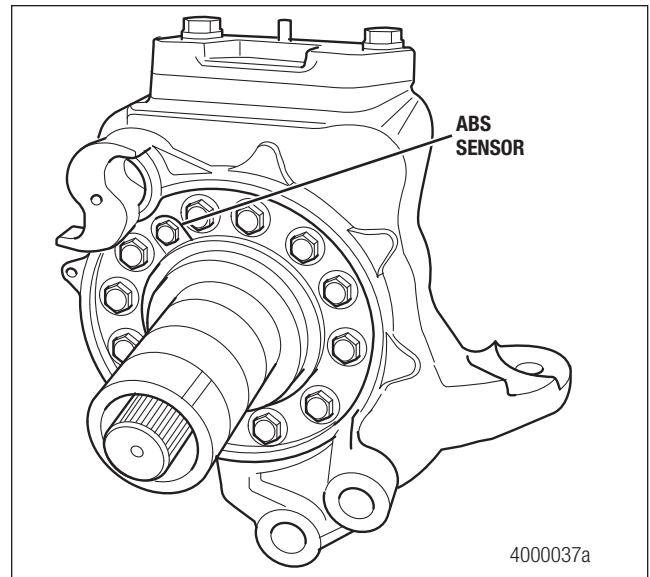

Figure 4.19
**If the vehicle is equipped with ABS:** Push the ABS sensor into the steering knuckle cavity. Figure 4.19.